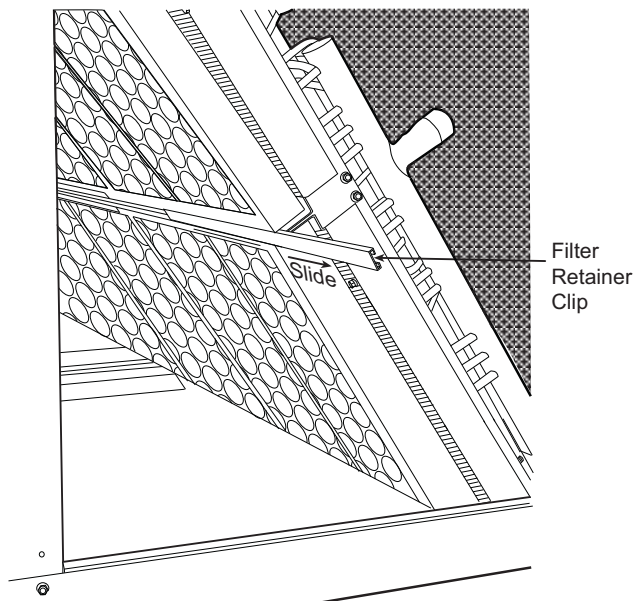

Fig. 50 — Remove Filter Retainer Clip
2. Remove the filter retainer clip (see Fig. 50).